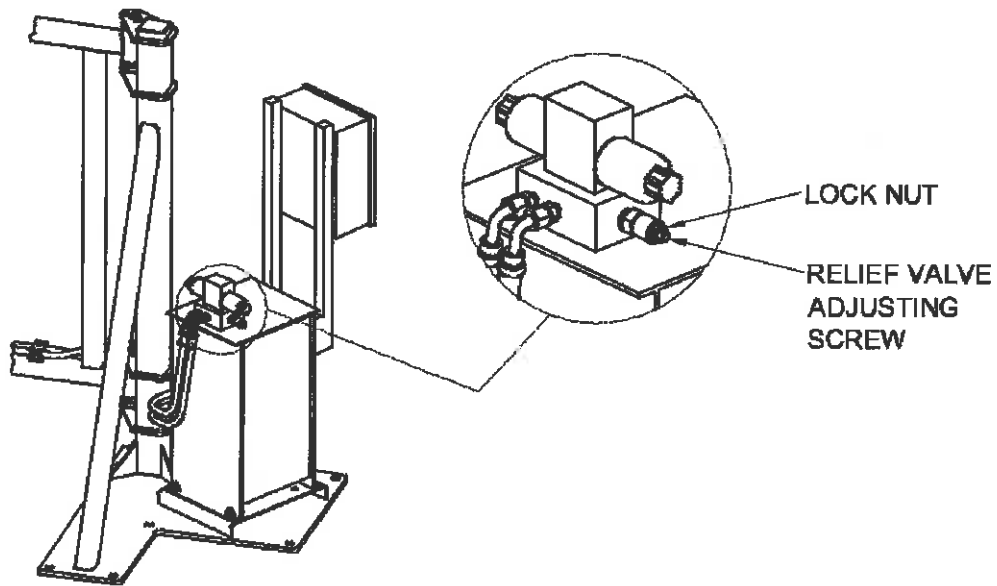

figure I-3
- b) Loosen the lock nut (figure I-3) on the relief valve adjusting screw.